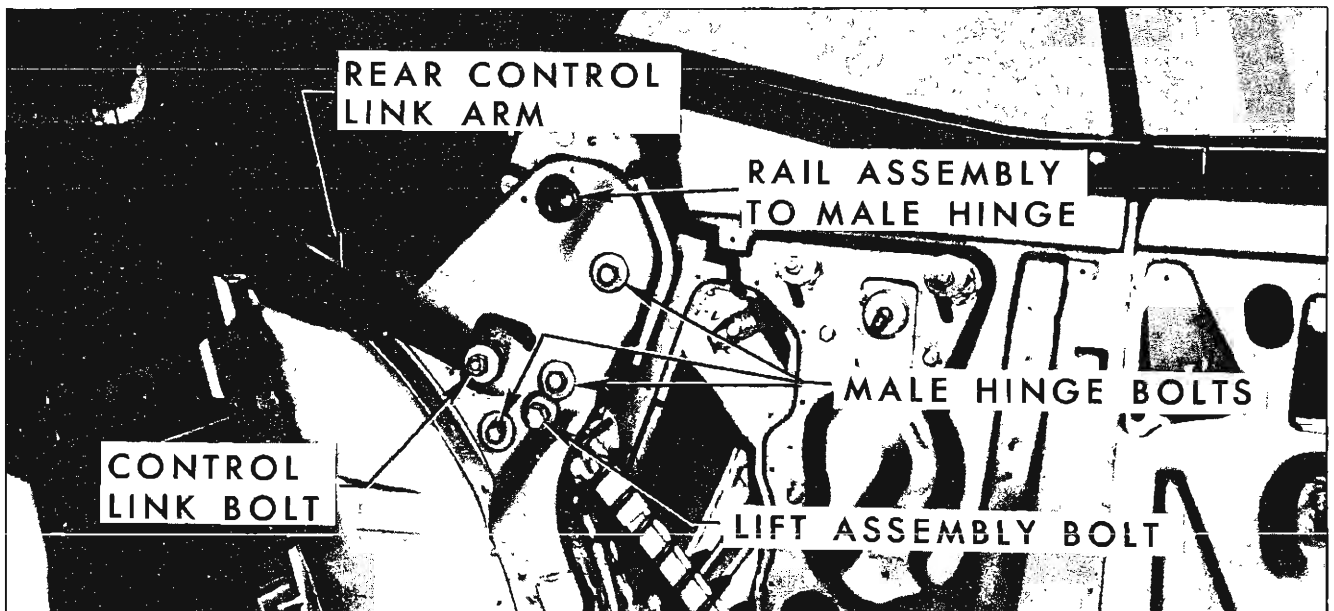

Fig. 13-83—Folding Top Linkage Attachment "F" Styles
- b. Loosen bolt securing control link sufficiently to permit adjustment (See Fig. 13-83).
- b. Loosen male hinge bolts (Fig. 13-83).
- b. Loosen male hinge bolts (See Fig. 13-83).
height or rearward to raise stack height (Fig. 13-83).
**NOTE:** When rotating male hinge be certain position of rear rail to male hinge is maintained (Fig. 13-83):